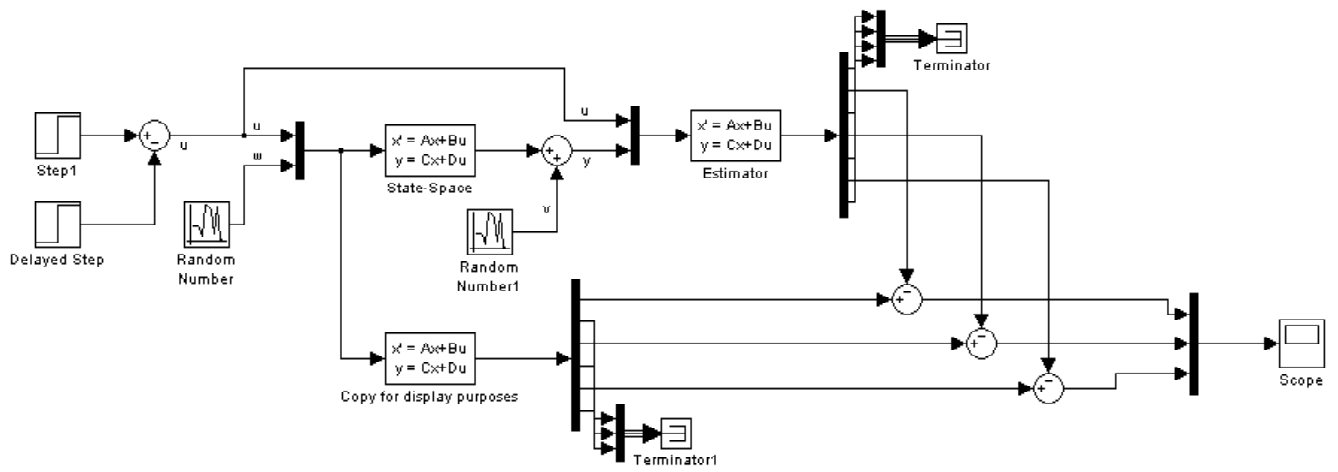

Figure 1: Suggested Simulink diagram for Problem 3(c)-iii.
- ii. Using the MATLAB function `kalman` and (2), design a Kalman estimator. Assume  $Q = R = 1$ . Write the equations of the estimator.
- iii. (Optional) Implement the plant (2) and the Kalman estimator in Simulink. Assume the initial state of the plant is  $x(0) = [0, 0, 0.005, 0, 0.01, 0]^T$  and the initial state of the estimator is 0. For  $v$  and  $w$ , use two random number sources with variance 0.005, sample time 0.001, and different initial seed numbers. Before applying  $y$  to the estimator, add the noise term  $v$  to it. You can create the input  $u_1$  from  $u$  and  $w$ , by using a multiplexer with three inputs. Note that the function `kalman` gives you the estimator in the state-variable form with input  $[u, y]^T$ . Assume the input  $u = \mathcal{U}(t) - \mathcal{U}(t - 2)$  is applied, where  $\mathcal{U}(t)$  is the unit step input. Plot the estimation error for the states  $x_1$ ,  $x_3$ , and  $x_5$ . Does the error decrease in time? Plot also your Simulink diagram. It could have a structure similar to the block diagram of Figure 1.